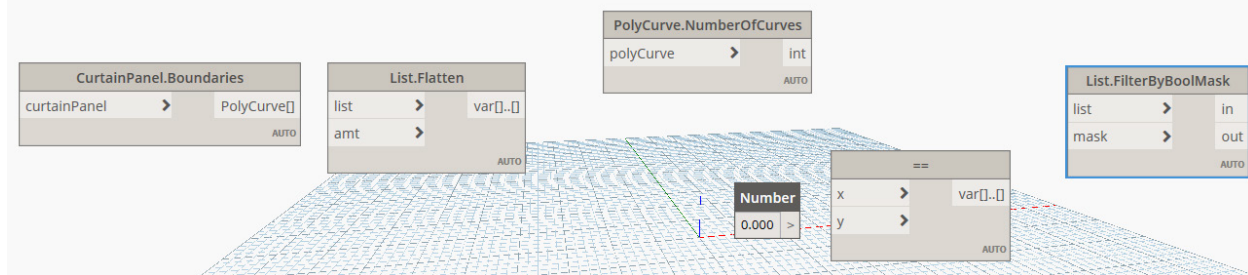

Figure 95
15. Position the nodes as shown in Figure 95.